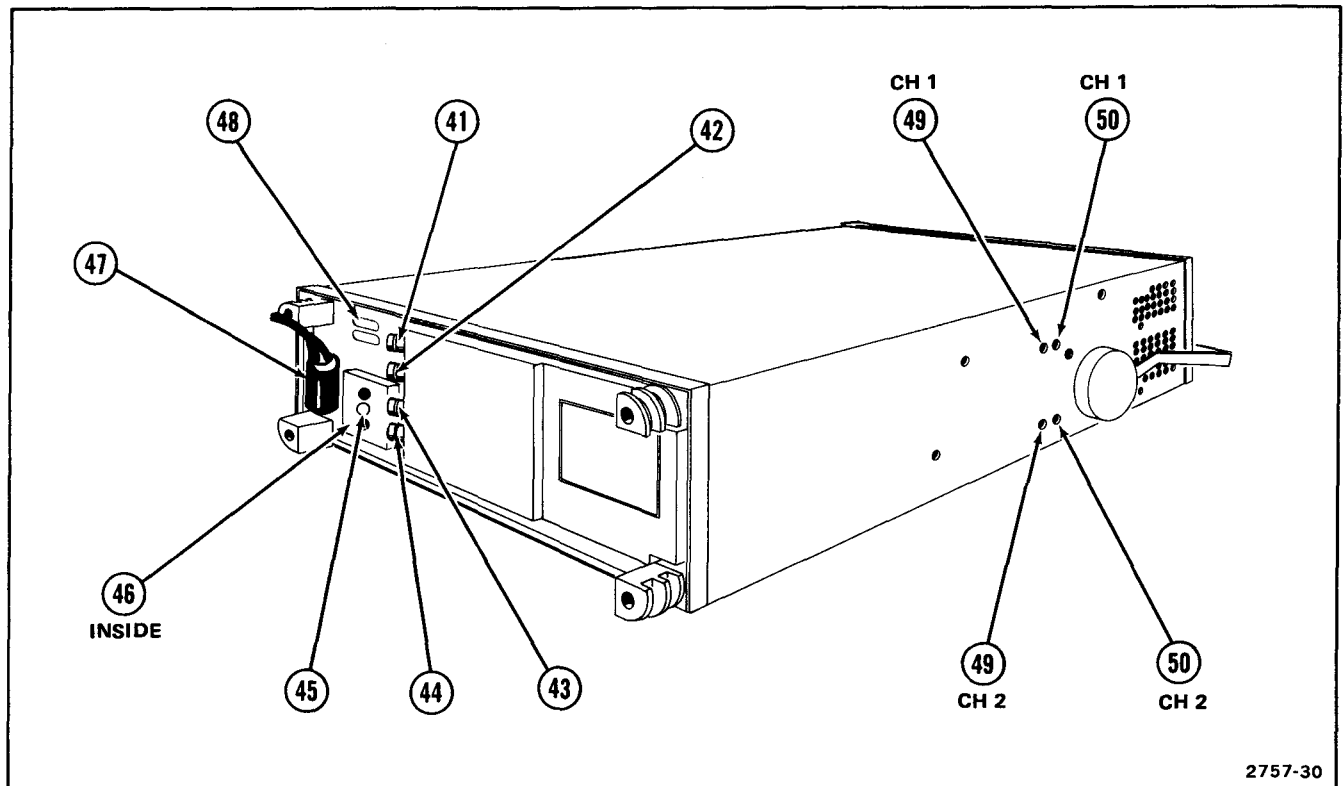

Figure 2-7. Rear panel and left side panel controls, connectors, and indicators.
Refer to Figure 2-7 for location of items 41 through 50.
- ④① **A +GATE**—Output bnc connector provides a positive-going pulse coincident with the A Sweep time.
- ④② **B +GATE**—Output bnc connector provides a positive-going pulse coincident with the B Sweep time.
- ④③ **CH 1 VERT SIGNAL OUT**—Output bnc connector provides a sample of the signal applied to the Channel 1 preamplifier via the input connector.
- ④④ **EXT Z-AXIS**—Input bnc connector permits the application of an external signal to intensity modulate the crt display. Does not affect display wave-shape. Signals with fast rise time and fall time provide the most abrupt intensity change. Signals must be time-related to the display for a stable presentation on the crt. The connector is useful for adding time markers in uncalibrated modes of operation.